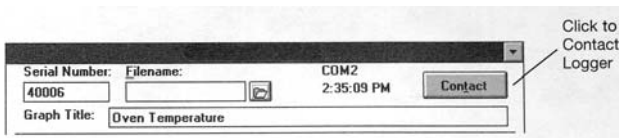

Figure 5
1. Click Edit Setup. (See figure 5).